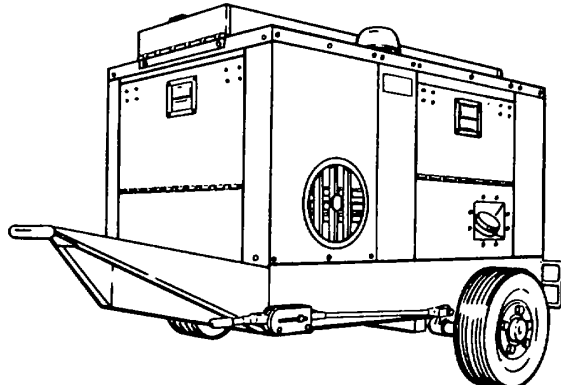

Figure 5-1. Enclosure Roof
- (1) Remove enclosure roof. (Figure 5-1)
- (10) Install roof panel. (Figure 5-1)